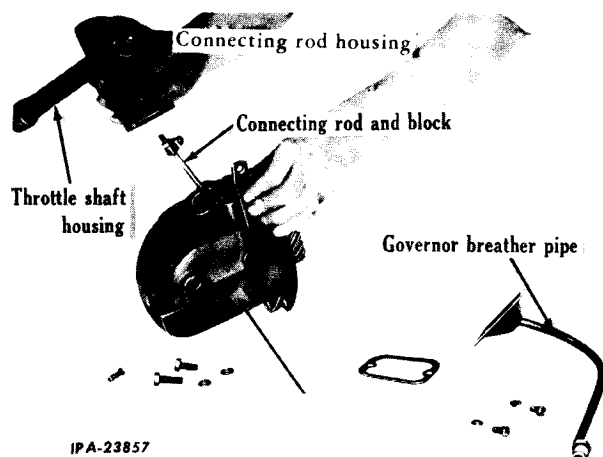

Fig. 7 - Disassembly of Governor Mechanism.
1. Separate the throttle shaft housing and the governor connecting rod housing from the governor housing (Fig. 7).